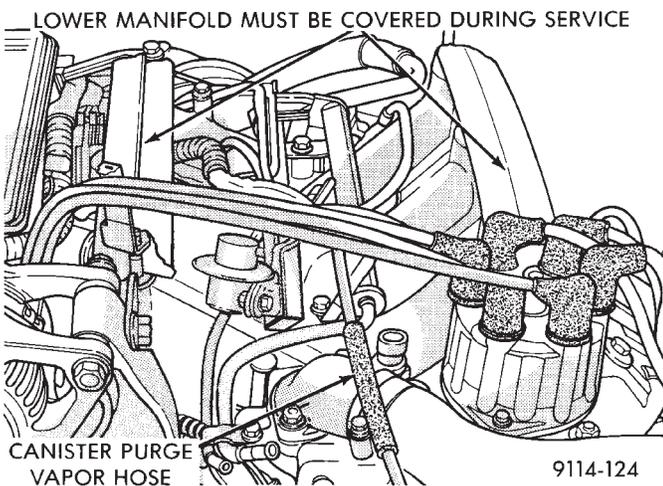

Fig. 10 Vacuum Connections for Fuel Rail and Fuel Pressure Regulator
(14) Cover intake manifold with suitable cover when servicing.
(15) Remove vacuum hoses from fuel rail and fuel pressure regulator (Fig. 10).
- (10) Connect vacuum harness to fuel pressure regulator and fuel rail assembly (Fig. 10).
- (11) Remove covering from lower intake manifold and clean surface.